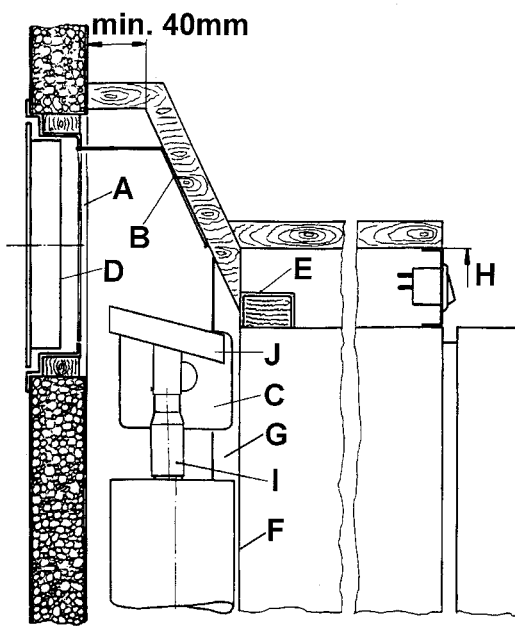

Fig.7a
Locate the lower opening immediately above the floor of the recess, and the upper one as high as possible above the condenser (C) of the refrigeration unit, at least as shown in fig. 7b but preferably as shown in fig. 7a.
Fitting the grilles, model **A 1620**, fig.2, which were specially developed by Electrolux for this purpose. It is a good idea to install the frame **R 1640** (B in fig. 7a) at the same time. Then the grilles can be easily removed, which permits inspection and small repairs to be carried out without the necessity for removing the refrigerator from the recess.
The ventilation passage at the rear of the recess, between the outer wall of the vehicle and the refrigerator (fig. 7a/b), is sealed off against the living space, and so cold draughts are excluded (winter camping) and **no flue gases can penetrate into the vehicle**. Thus a special flue outlet is no longer necessary – the gases are dispersed through the upper vent grille.
The top of the enclosure above the flue tube (I), fig. 7a/b, should be covered with aluminum sheet metal, as indicated in (B), to facilitate the heat dispersion.